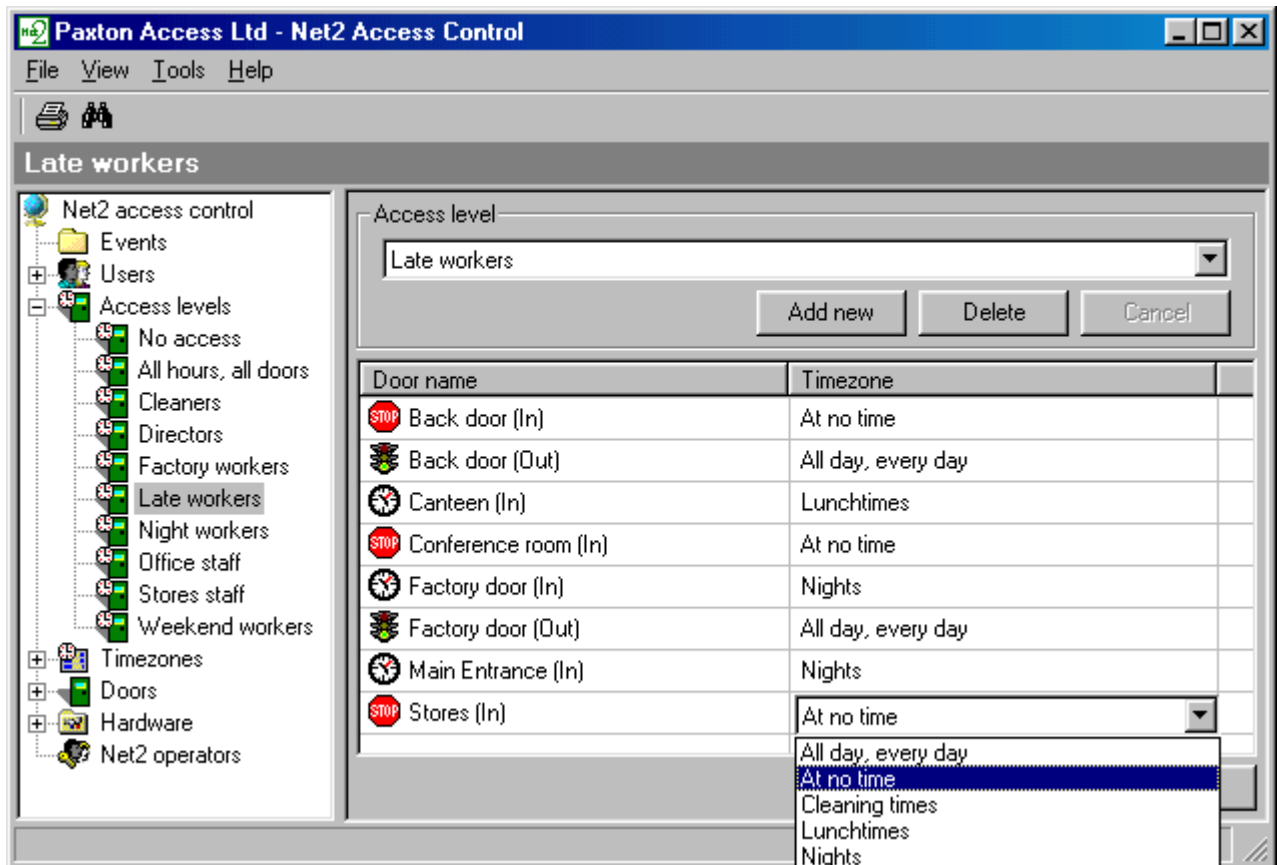

Figure 4.10
3. Select a timezone from the drop down menu for each of the doors on the list, see figure 4.10.